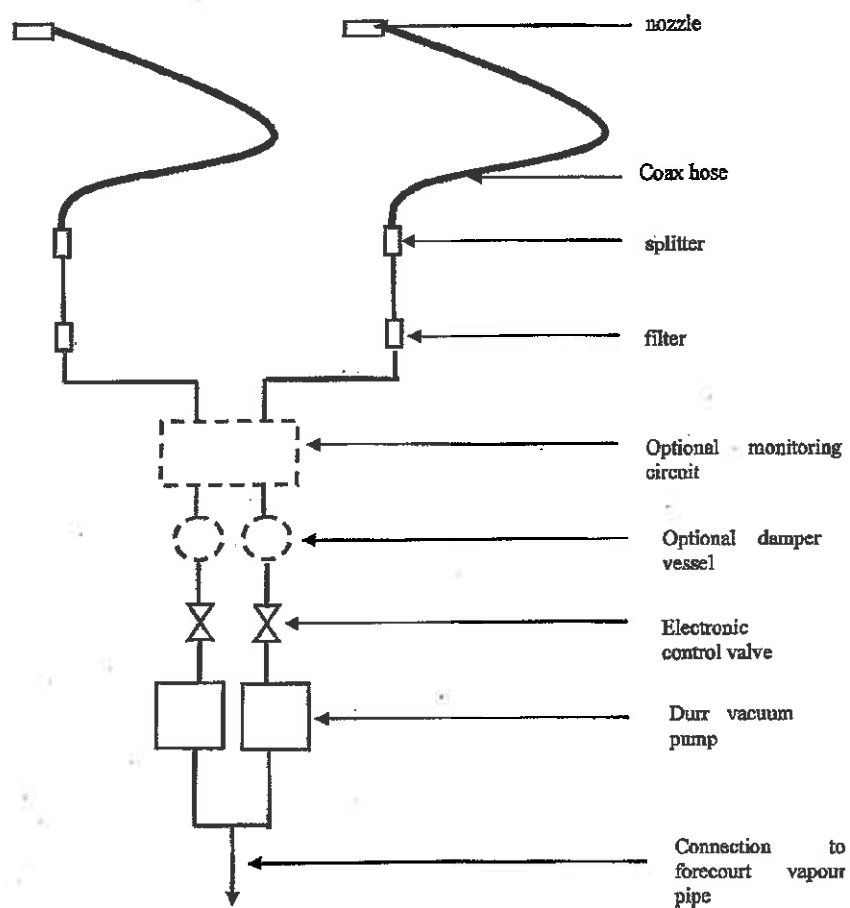

Figure 1 Vapour recovery system schematic
- alternative layout using a Durr vacuum pump (Figures 1 & 2)